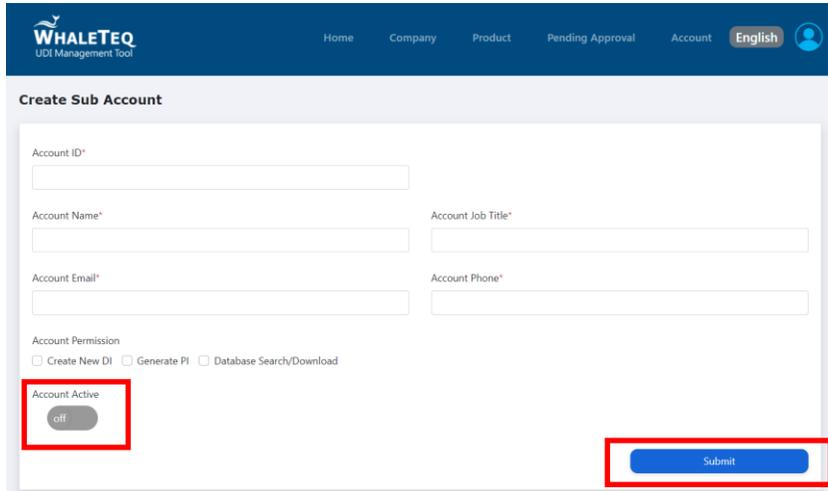

Figure 42 : Create sub account
(4) Notes for Create Sub Account
- To activate the account, please set Account Active from [OFF] to [On] (Figure 42).